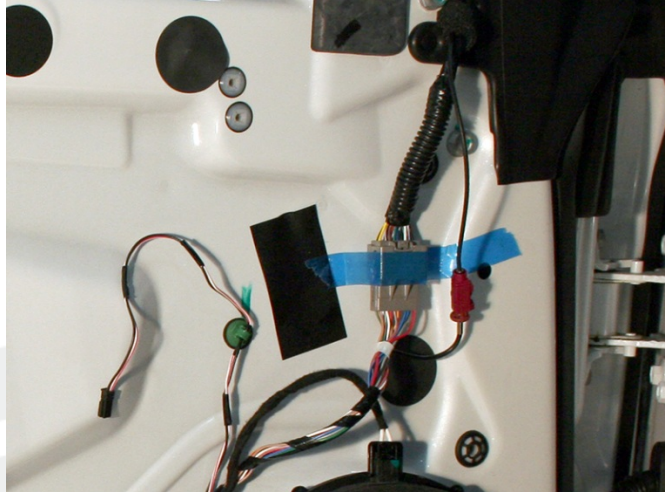

Figure 15
12. Tape the mirror harness connector to the door (Figure 15).